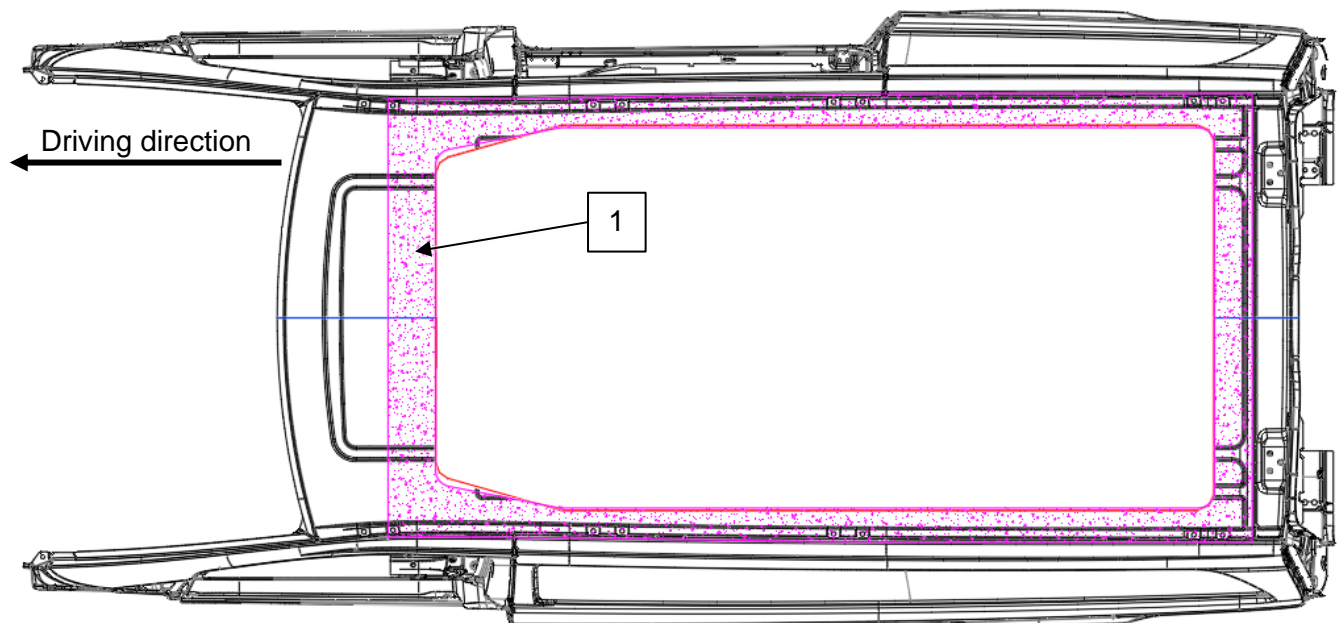

Fig. 3-2: Gluing area [A0003880]
- Prepare the vehicle roof (see Fig. 3-2) and the EasyFit frame in the gluing area (1):